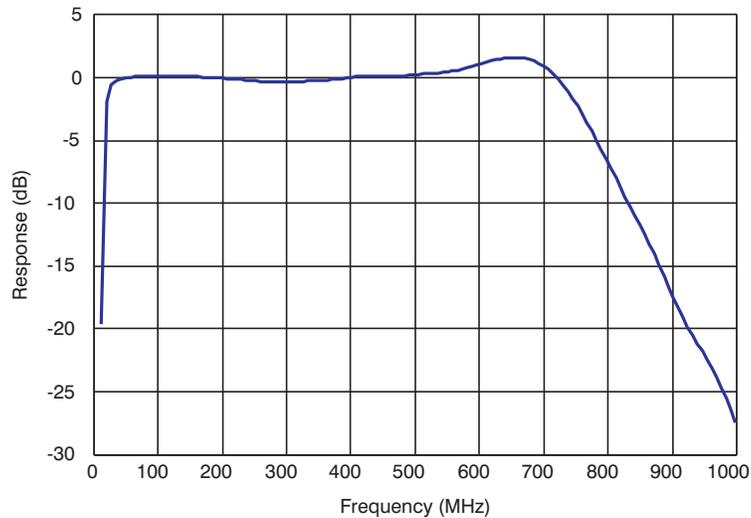

Figure 1.1 In-Band Frequency Response
- 2) Figure 1.1 shows the typical frequency response of a 2806T/2809R link over the specified frequency range. The gain flatness is ±1.5 dB over this range. The flatness is typically less than ±0.1 dB over a standard 6 MHz channel bandwidth. See Application Note AN123 for additional information on North American Television Frequencies.